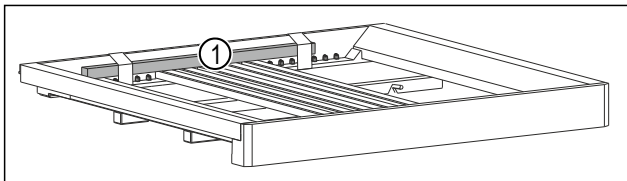

Fig. 37 *
- Remove the wooden stick Fig. 37 (1).*